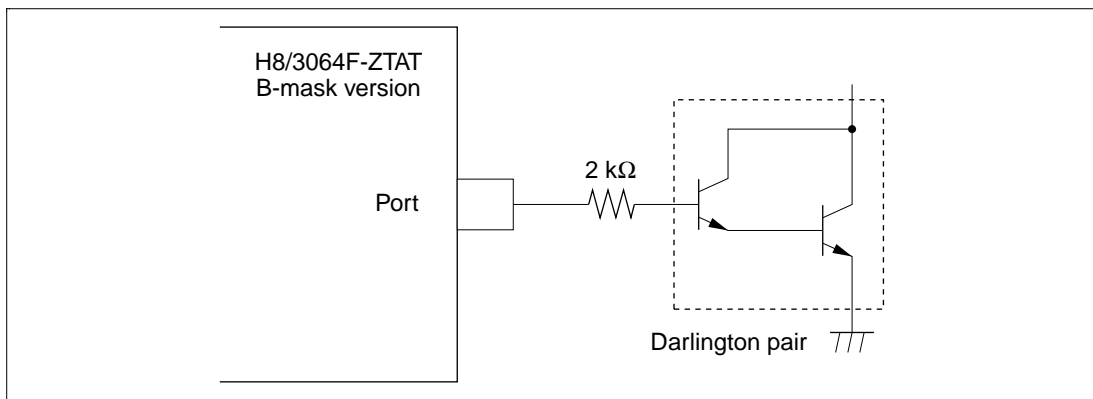

Figure 22.7 Darlington Pair Drive Circuit (Example)
2. When directly driving a darlington pair or LED, always insert a current-limiting resistor in the output line, as shown in figures 22.7 and 22.8.